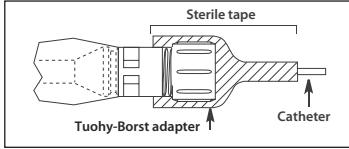

Figure 5
- Tuohy-Borst adapter end of catheter contamination shield should be secured with sterile tape to inhibit catheter movement (refer to Figure 5).